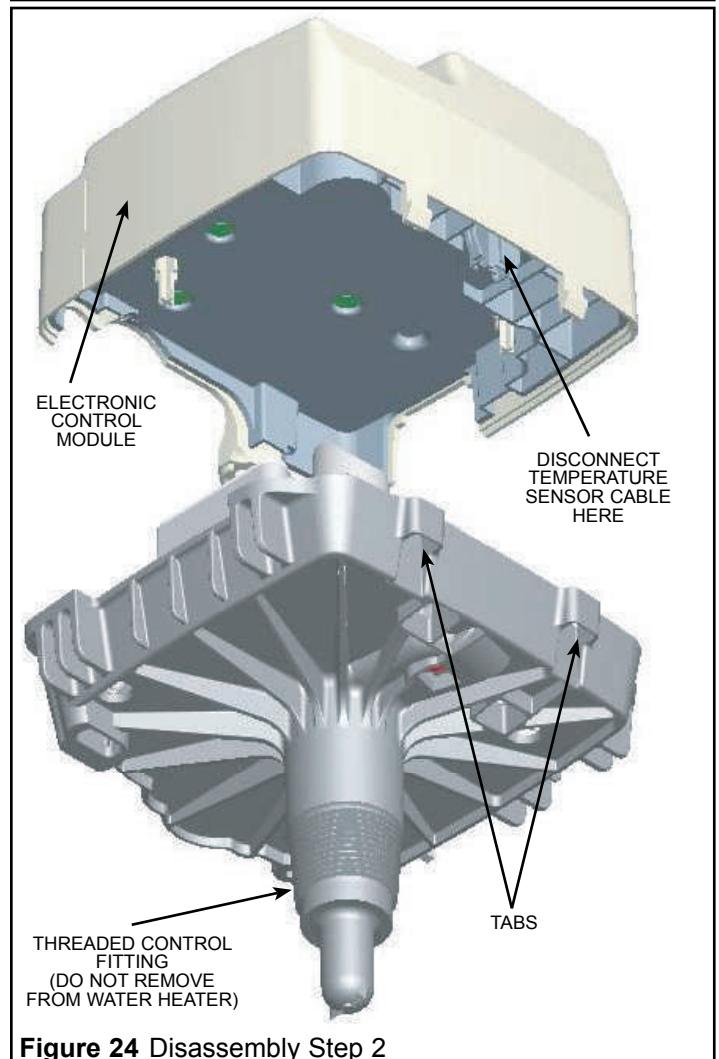

Figure 24 Disassembly Step 2
2. Use a flat-blade screwdriver to release the two tabs at the top of the gas control and lift the electronic control straight up (see Figures 24 & 25).